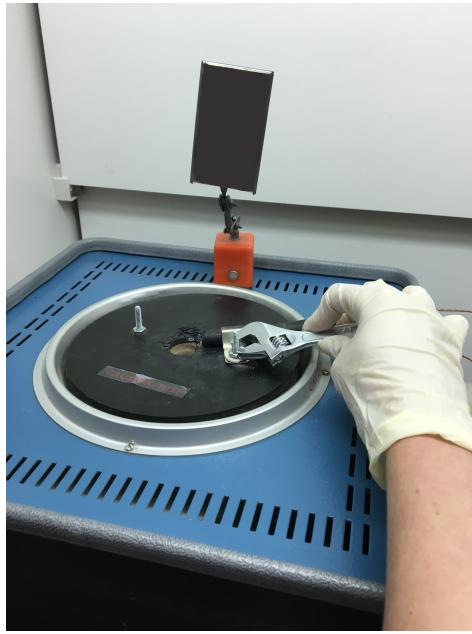

Figure 19: Position thermocouple 4 with the rubber hose and tighten
- * Tighten the nut on the bracket hand tight and then give a half turn with a wrench to secure the nut (See Figure 19)